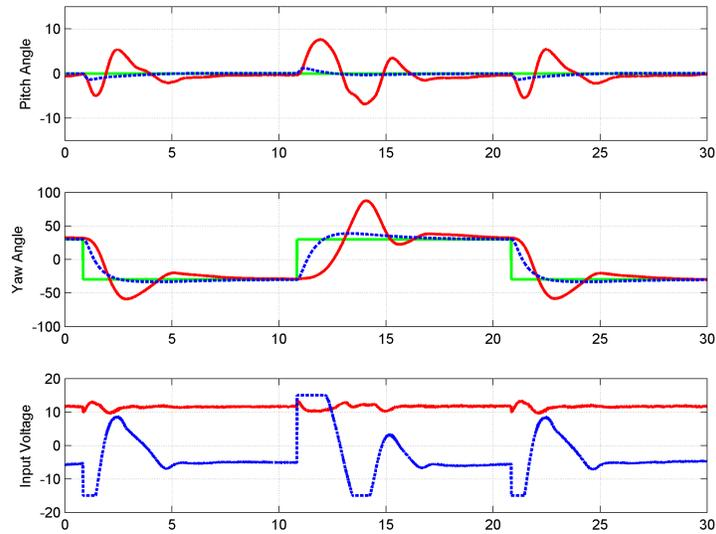

Figure 5.19: Closed-loop LQR+I response under yaw reference step
20. Set the *Amplitude: Pitch (deg)* to 0 and *Amplitude: Yaw (deg)* to 30.0 observe the LQR+I response under a desired yaw step. The obtained response should be similar to Figure 5.19. There is no steady-state error but the controller saturates the yaw amplifier due to the large step reference.